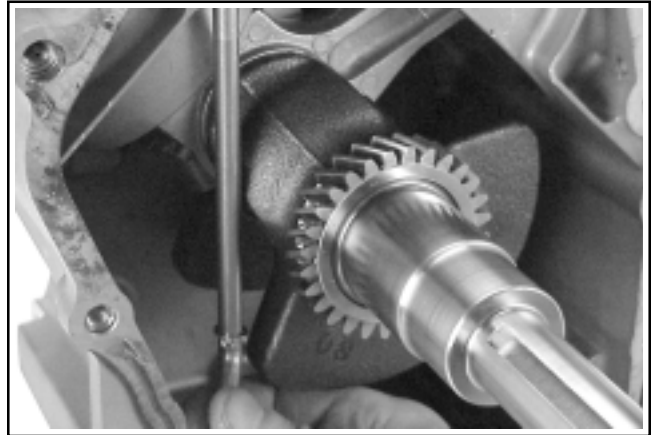

Figure 9-76. Removing Governor Cross Shaft.
2. Remove the cross shaft through the inside of the crankcase. Be careful not to lose the small washer on the lower portion of the shaft, just above the stake marks. See Figure 9-76.